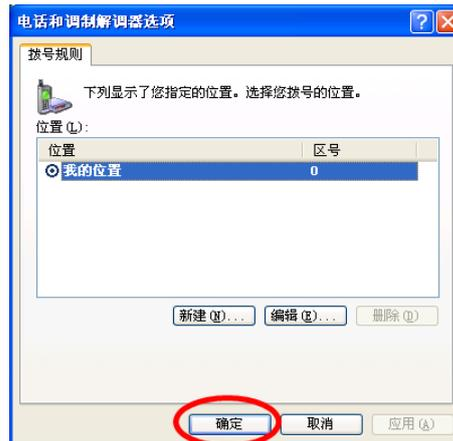

Figure 4-3 The Telephone and Modem interface
Step 1: Start the PC (or laptop). Select "Start/All Programs (or Programs)/Attachment/Communication/Hyperterminal" menu. Click  icon to establish a new connection. The "Connection Description" interface pops up, as shown in Figure 4-5. If it is the first time to set the Hyperterminal, the system displays the interface of **Location Information**, as shown in Figure 4-3. Fill in according to the red indication in the fiugre and click **OK**.